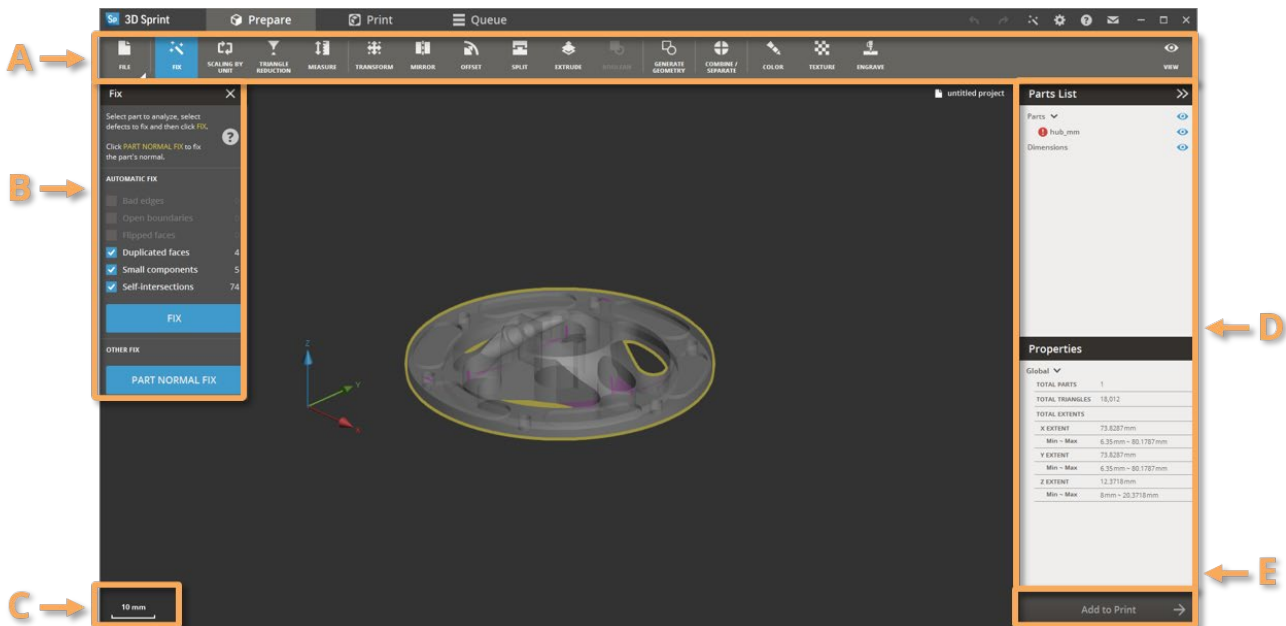

Figure 6 Main areas of the Prepare workplace
- Review the main areas of the **Prepare** workspace (Figure 6).